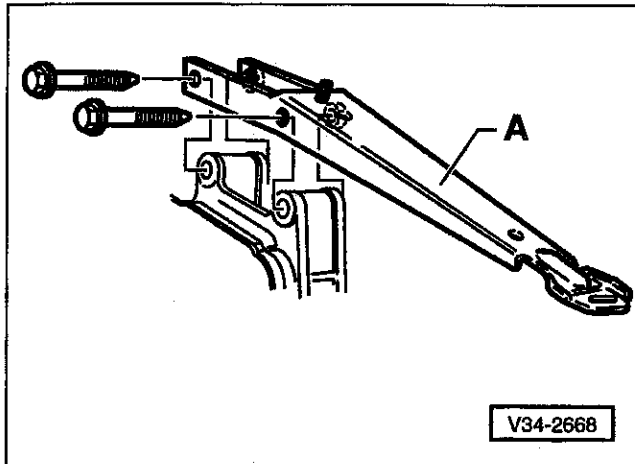

Fig. 18. Transmission support (A) used on some models.
11. Remove transmission support from transmission and any attached brackets (where applicable). See Fig. 18.